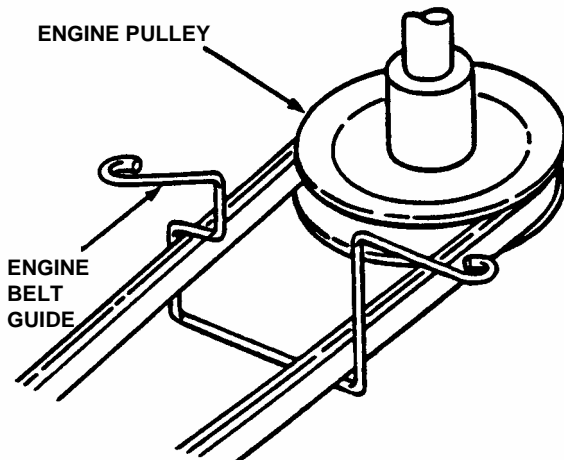

FIGURE 4.13
4. Route new belt through engine belt guide up to engine pulley. See Figure 4.13.